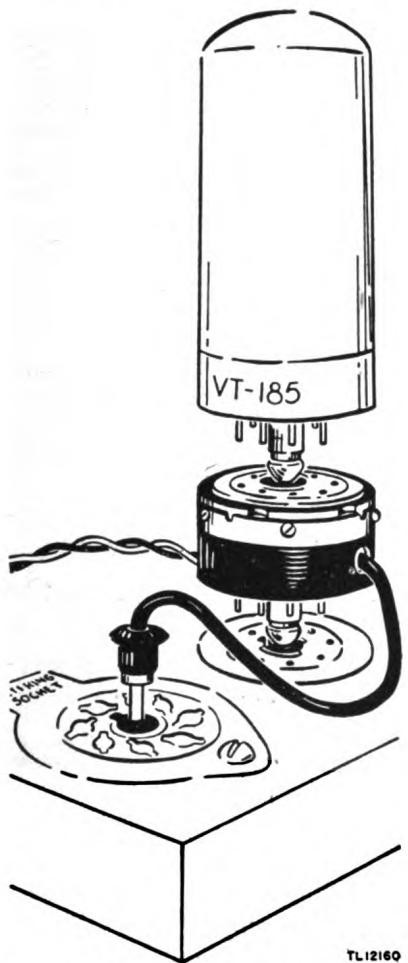

Figure 71. Adapter M-399, pictorial view.
e. Remove receiver p-a Tube JAN-3D6/1299 from its socket and insert the adapter plug. Then insert the tube in the adapter plug socket, as shown (fig. 71).